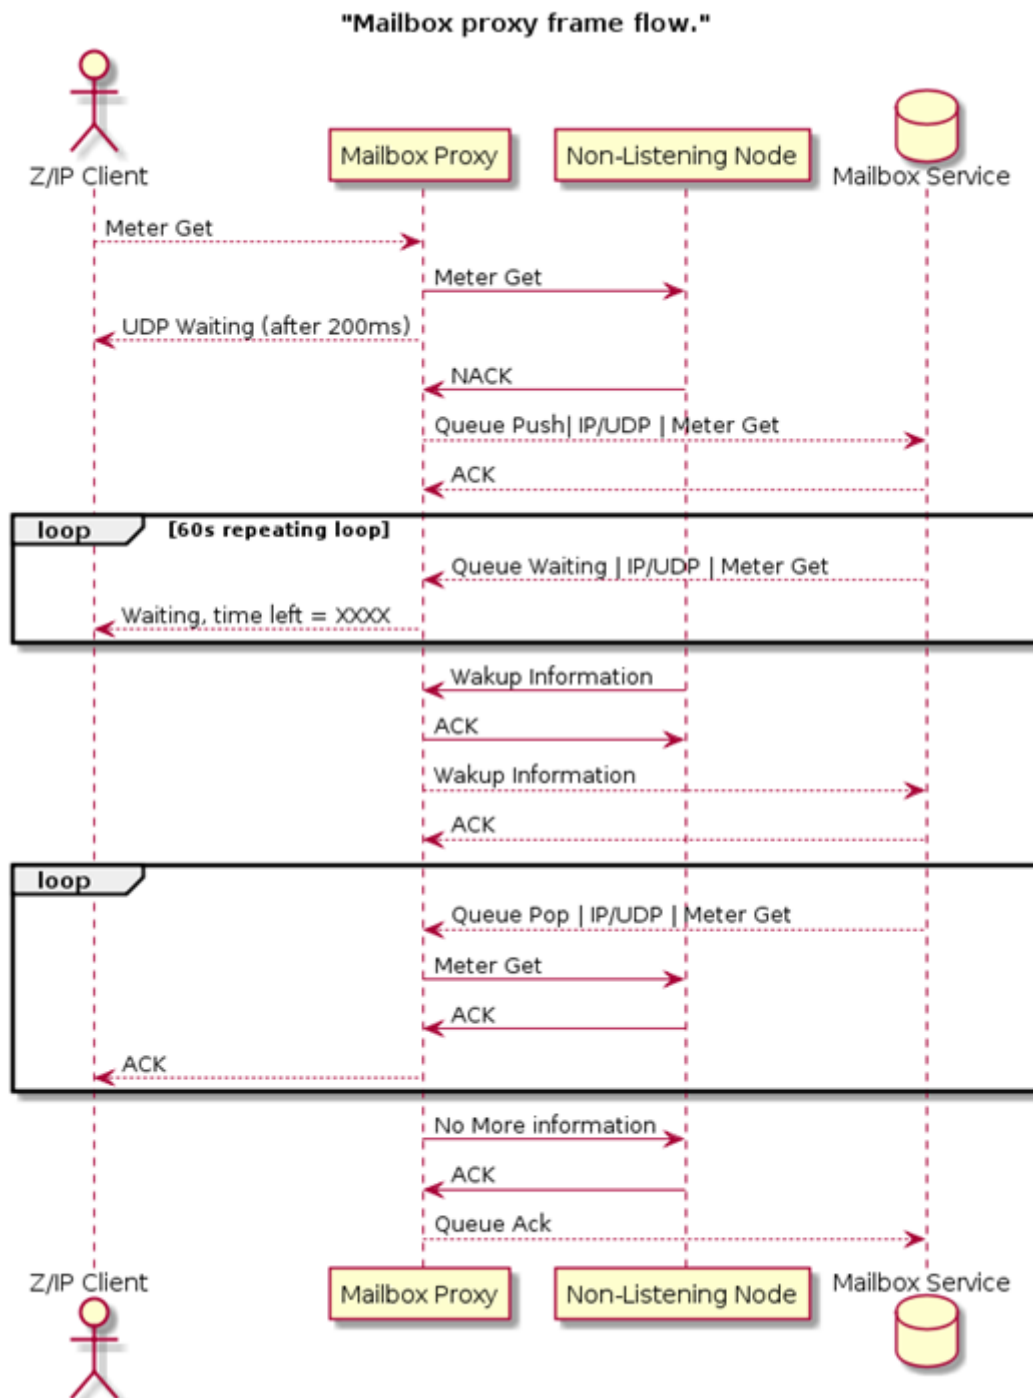

Figure 5.3: Mailbox Frame Flow
Figure 5.3 illustrates the communication between a Z/IP Client (1) attempting communication to a non-listening node (4). The communication is passing through the Mailbox Proxy (2) which initially will attempt direct communication with (4). If failing to reach (4), the frame will be forwarded to the Mailbox Service (3) using the Mailbox Queue Command with Push Operation.